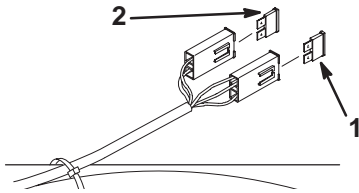

Figure 82
2. To replace a fuse, pull out on the fuse to remove it (Fig. 82).